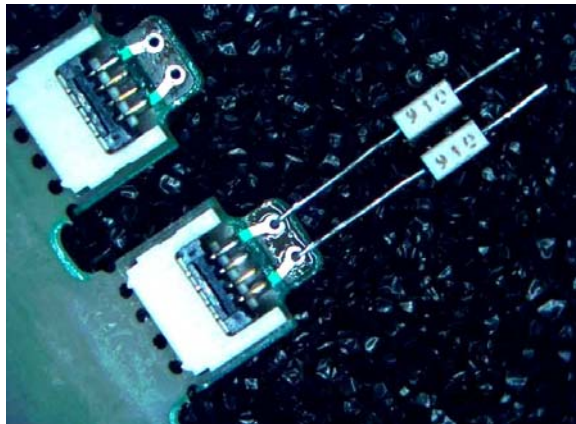

Figure 79 Resistors Inserted into Tip
- 6 Insert one resistor into each through-hole of the circular traces on the board. Align the corresponding resistor faces as shown in Figure 79. Make length adjustments as needed.